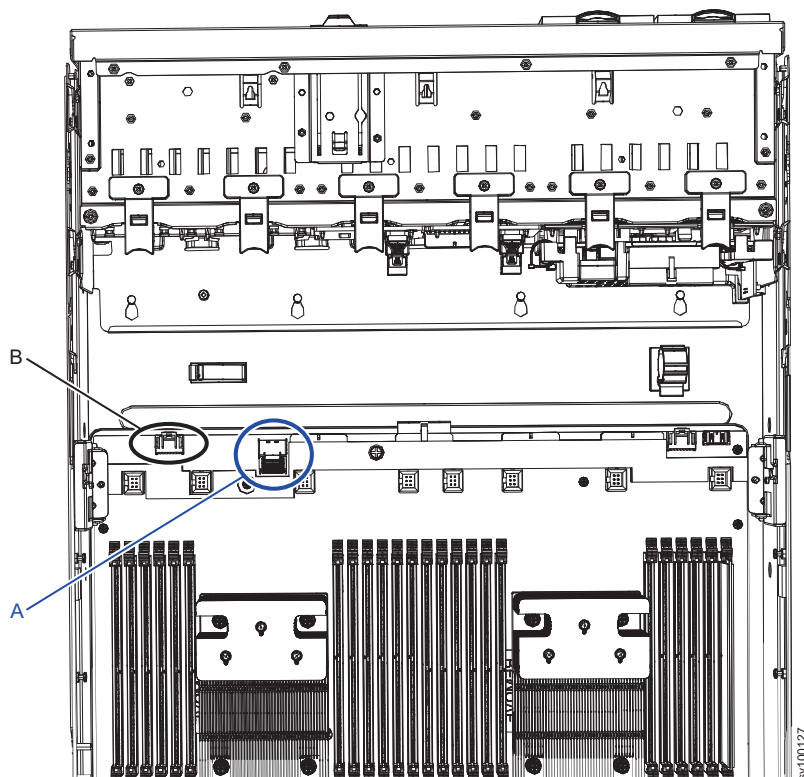

Figure 263. Cable connectors on the main board for the operator-information panel cables
2. Remove the blue and black cables from the connectors (**A** and **B**) on the main board, as shown in Figure 263 on page 315.